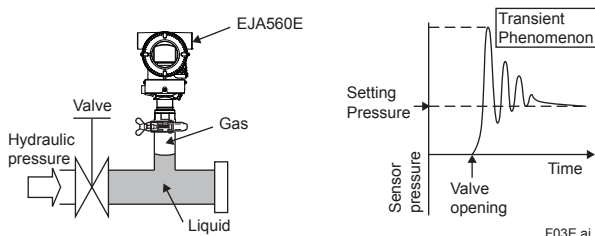

Figure 2. Surge Pressure of Bubbly Mixed Fluid When Installed to the Upper End of the Pipe
- Surge pressure of bubbly mixed fluid when installed to the upper end of the pipe (Figure 2)